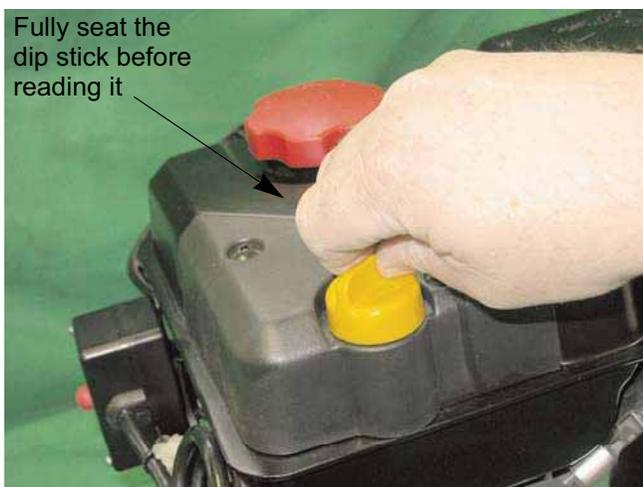

Figure 1.6
3. Re-insert the dipstick **and turn it until it is fully seated** to get the oil level reading. See Figure 1.6.